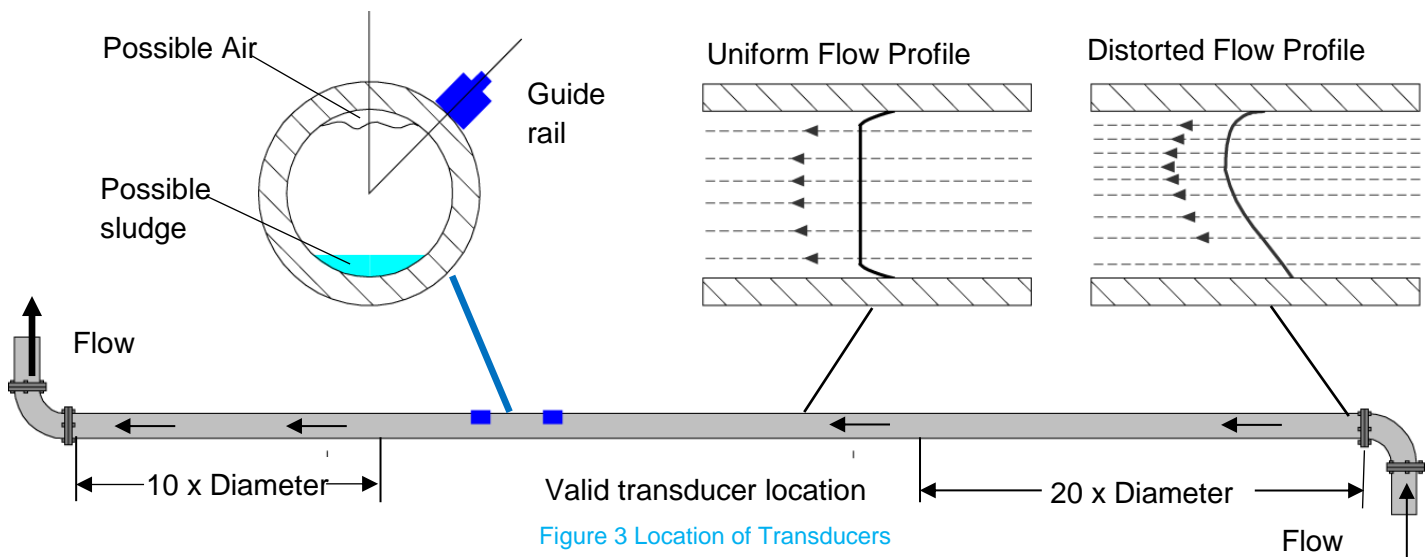

Figure 3 Location of Transducers
For optimum reliability on boiler applications, the flow measurement needs to be made on the cold side of the system. For optimum reliability in chiller applications, the flow measurement needs to be made on the warmer side of the system, making sure sensors are positioned as in figure 3 above.
To obtain the most accurate results the condition of both the liquid and the pipe must be suitable to allow ultrasound transmission along the predetermined path. It is important that liquid flows uniformly within the length of pipe being monitored, and that the flow profile is not distorted by any upstream or downstream obstructions. This is best achieved by ensuring there is a straight length of pipe upstream of the transducers of at least 20 times the pipe diameter, and 10 times the pipe diameter on the downstream side, as shown in Figure 3. Flow Measurements can be made on shorter lengths of straight pipe, down to 10 diameters upstream and 5 diameters downstream, but when the transducers are mounted this close to any obstruction the resulting errors can be unpredictable.
1. Before attaching the transducers, first ensure that the proposed location satisfies the distance requirements shown in **Figure 3** otherwise the resulting accuracy of the flow readings may be affected. The unit is preconfigured for the application as follows :-